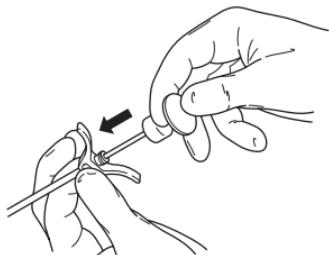

Figure 3 – Inject Bone Cement Using the Cement Obturator
5. Under fluoroscopic guidance, inject the bone cement using the cement obturator (figure 3).